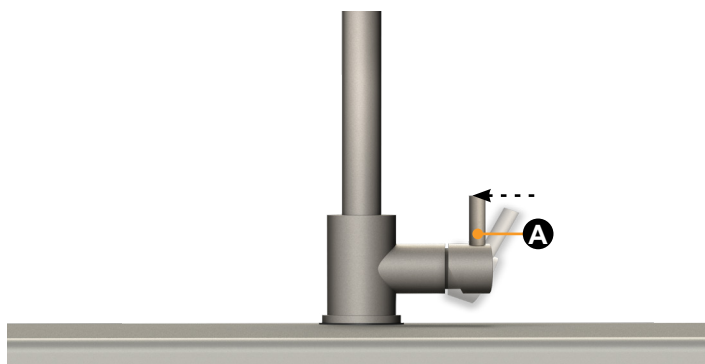

Fig.17
6. To shut the water off push the lever in towards the faucet (Fig.17).